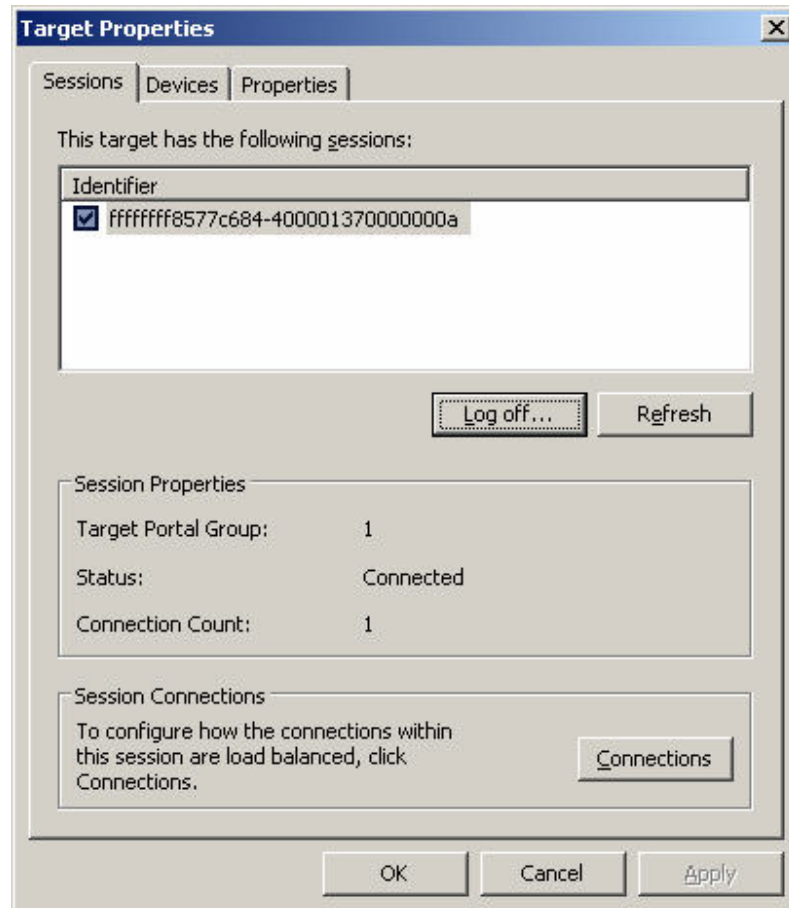

Figure D.8
1. Click “**Details**”. Please see Figure D.8.